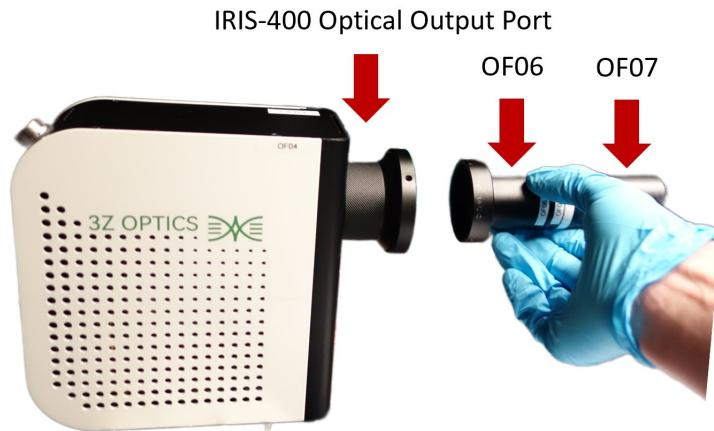

Figure 13: Guiding OF06 into the optical output port.
5. Guide OF06 into the IRIS-400 optical output port (OF04), as shown in (Figure 13).